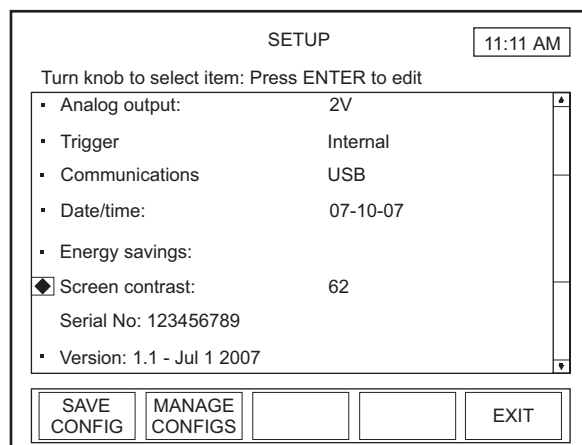

Figure 70. SETUP: Screen Contrast
1. On the main SETUP screen, turn the Selection knob to move the diamond indicator to Screen Contrast (Figure 70).